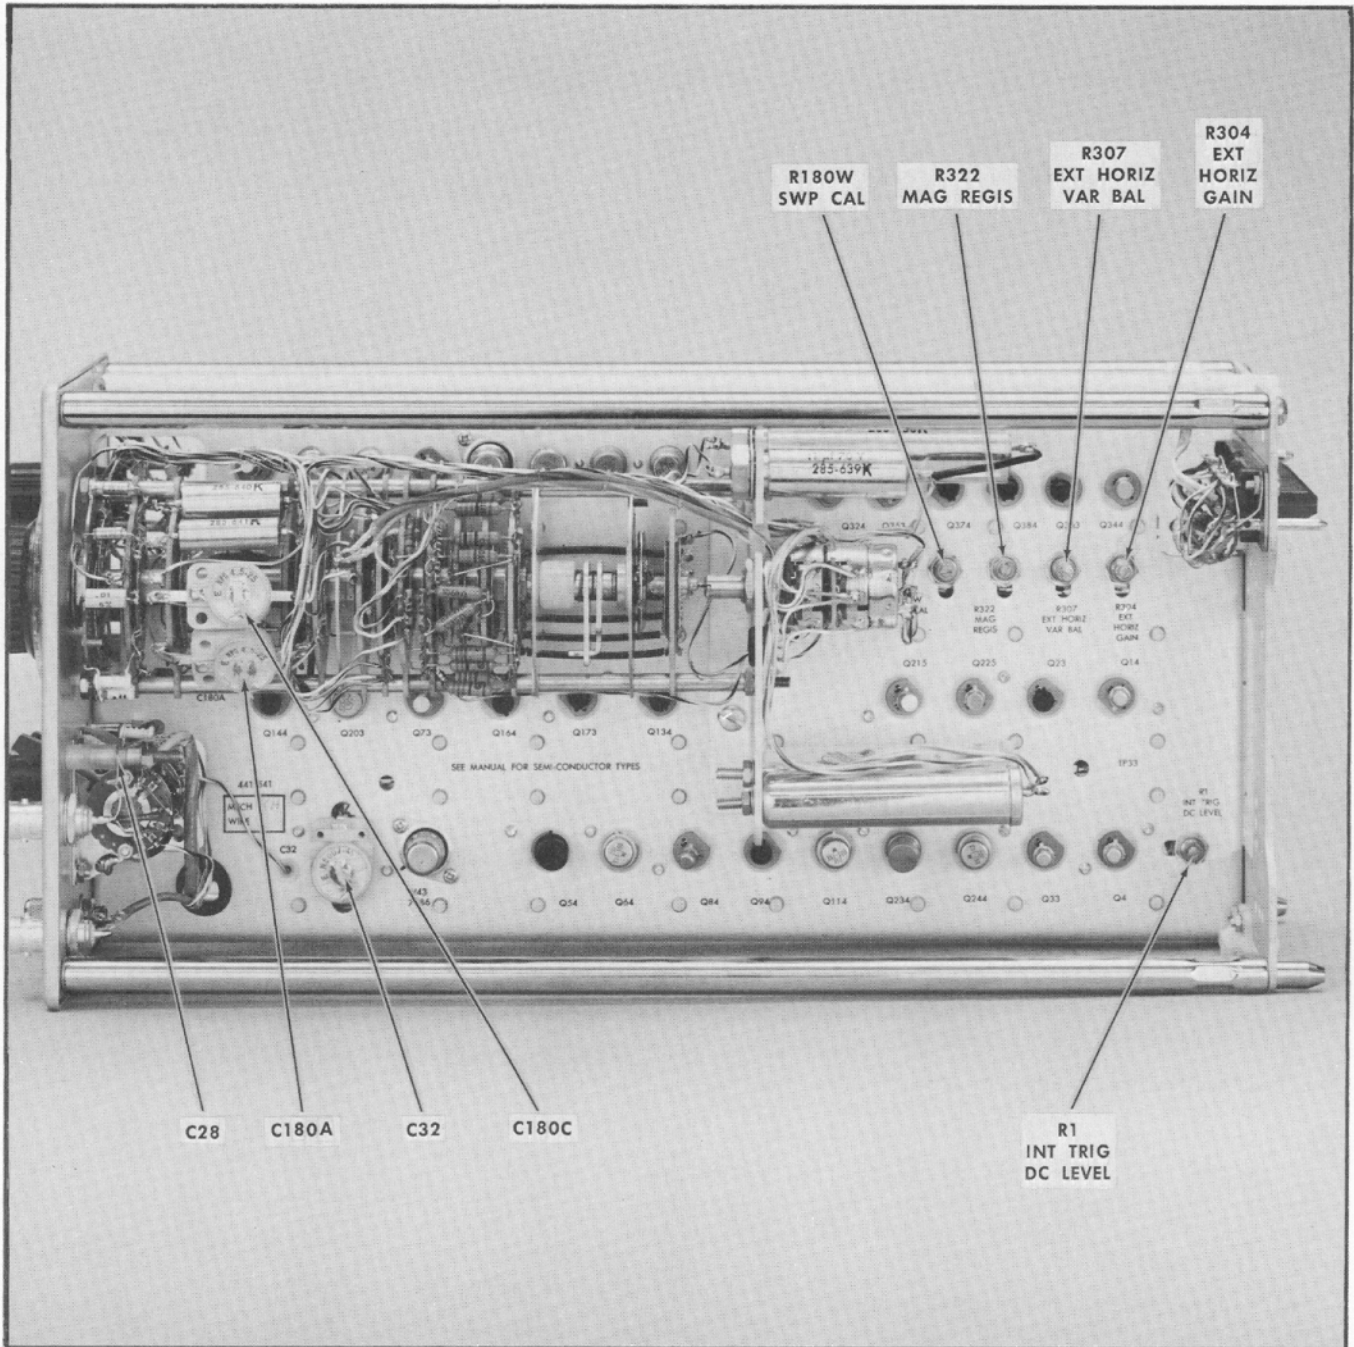

Fig. 5-2. Location of calibration adjustments.
g. ADJUST—Int Trig DC Level, R1 (see Fig. 5-2) so the spot remains stationary as the COUPLING switch is switched back and forth between AC LF REJ and DC.